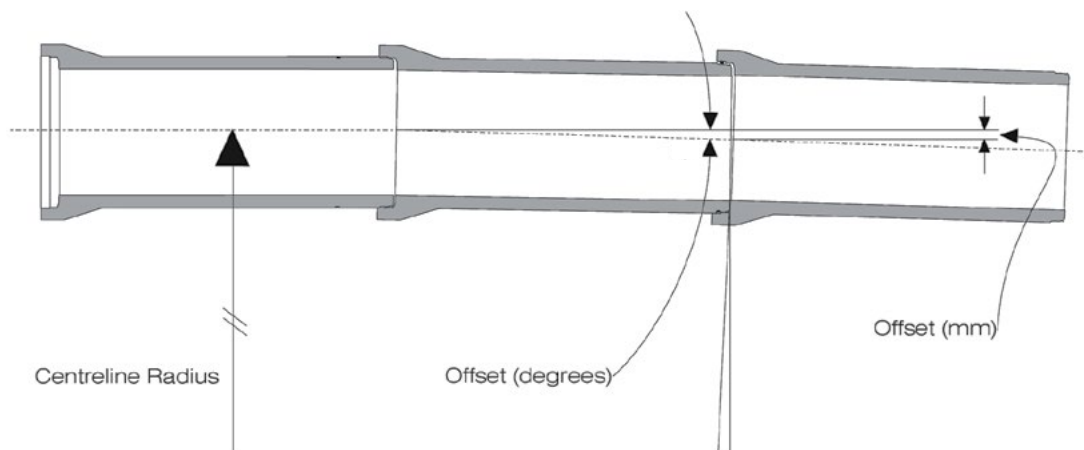
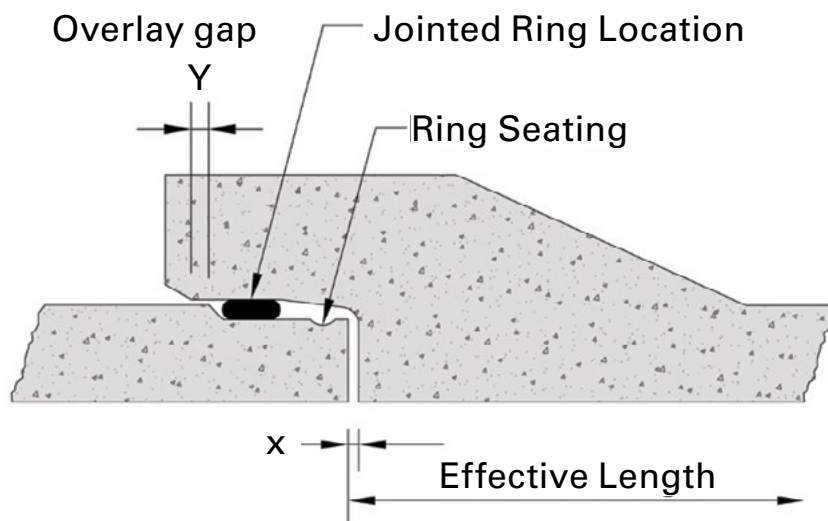

FIG. 3 Hyspec spun pipe joint flexure.
FIG. 4 Section through Hyspec rolling ring joint. Non flexure condition.
3. Effective length values given include nominal laying gap. All dimensions are in mm. Refer Fig. 3 & Fig.4
- The recommended angular rotation of a pipe is the amount of joint deflection which is accommodated within half of the concrete to concrete overlap “Y” (refer to Figure 4).
- These deflection conditions assume that each individual pipe is jointed with the correct overlay gap “Y” (refer to Figure 4) and then deflected horizontally by the tabulated amount detailed in Table 2.